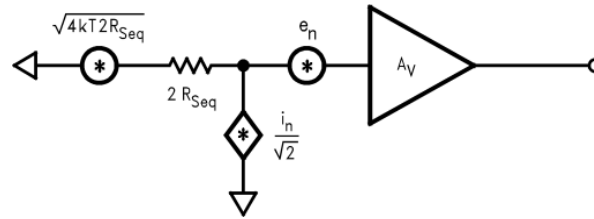
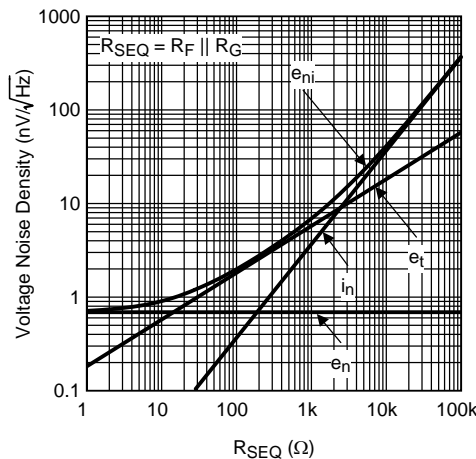

Figure 59. Noise Model with $R_f || R_g = R_{seq}$
Figure 60. Voltage Noise Density vs. Source Resistance
Figure 59 illustrates the equivalent noise model using this assumption. Figure 60 is a plot of e_{ni} against equivalent source resistance (R_{seq}) with all of the contributing voltage noise source of Equation 4. This plot gives the expected e_{ni} for a given (R_{seq}) which assumes $R_f || R_g = R_{seq}$ for bias current cancellation. The total equivalent output voltage noise (e_{no}) is $e_{ni} * A_V$.
As seen in Figure 60, e_{ni} is dominated by the intrinsic voltage noise (e_n) of the amplifier for equivalent source resistances below 15Ω. Between 15Ω and 2.5 kΩ, e_{ni} is dominated by the thermal noise ($e_t = \sqrt{4kT(2R_{seq})}$) of the equivalent source resistance R_{seq} ; incidentally, this is the range of R_{seq} values where the LMH6629 has the best (lowest) Noise Figure (NF) for the case where $R_{seq} = R_f || R_g$.
Above 2.5 kΩ, e_{ni} is dominated by the amplifier's current noise ($i_n = \sqrt{2} i_{nR_{seq}}$). When $R_{seq} = 190\Omega$ (i.e., $R_{seq} = e_n / \sqrt{2} i_n$), the contribution from voltage noise and current noise of LMH6629 is equal. For example, configured with a gain of +10V/V giving a -3dB of 825 MHz and driven from $R_{seq} = R_f || R_g = 20\Omega$ ($e_{ni} = 1.07 \text{ nV}/\sqrt{\text{Hz}}$ from Figure 60), the LMH6629 produces a total equivalent output noise voltage ($e_{ni} * 10 \text{ V/V} * \sqrt{(1.57 * 825 \text{ MHz})}$) of 385 μV_{rms} .